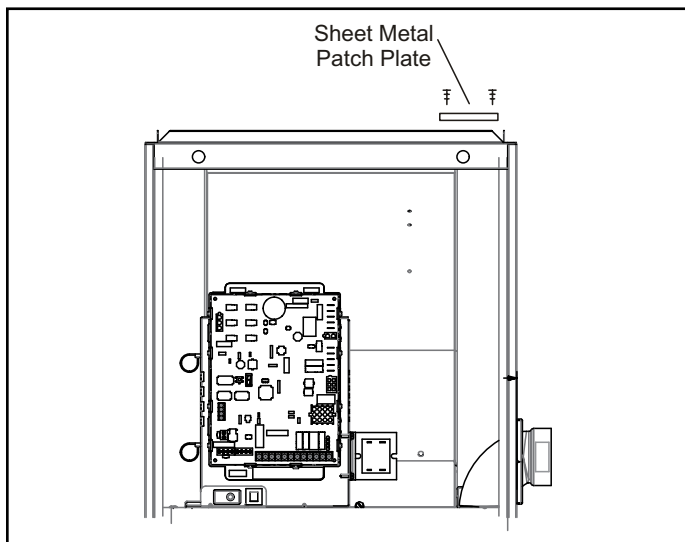

Figure 15. Install Patch Plate Over Top Cap
8. Re-use the patch plate to cover the hole in the top cap. See Figure 15. Remove the 2 screws that secure the top cap to the furnace on the right side and re-install, securing the right edge of the patch plate and the right side of the top cap to the furnace. Use 2 self-drilling sheet metal screws (provided) to finish securing the left edge of the patch plate on the left side.